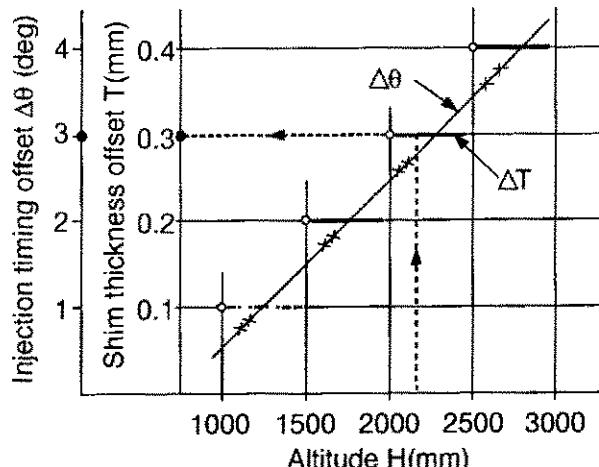

Fig. 7.4.1 Offset shim thickness
- ① Complete adjustment of injection timing  $\theta$  for the lowland and take note of adjustment shim thickness  $T$ .
- ② Obtain shim thickness  $\Delta T$  to be decreased and injection timing  $\Delta\theta$  to be increased based on the altitude  $H$  where the diesel generator is used and the correction shim thickness shown in Fig. 7.4.1.